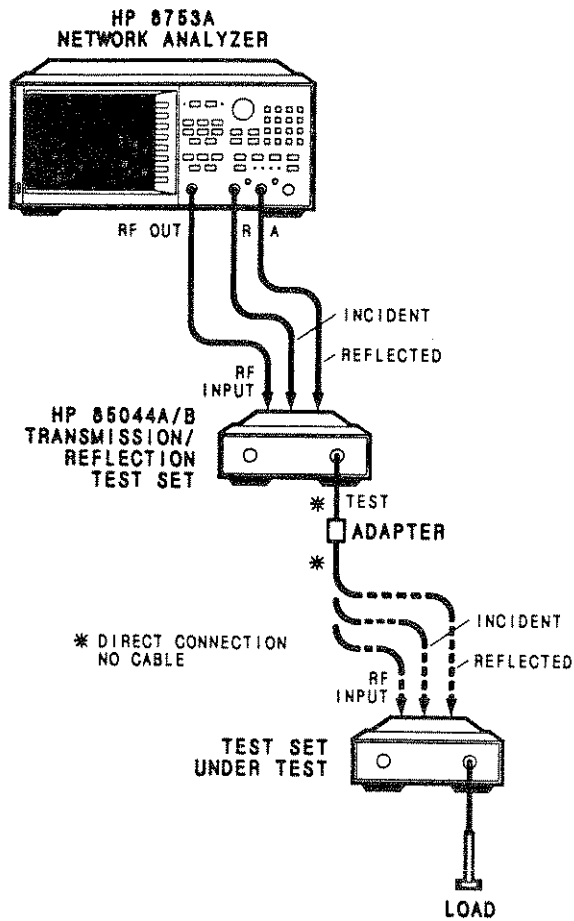

Figure 4-3. Port Match Test Setup.
5. Connect a 50Ω load on the RF INPUT and REFLECTED ports of the HP 85044A/B under test as shown in Figure 4-3. In addition, to test the port match of the